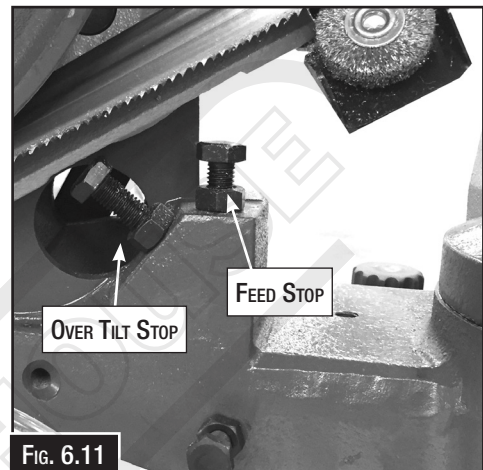

FIG. 6.11
2. Release the lock nut on the Feed Stop bolt. (Fig. 6.11)